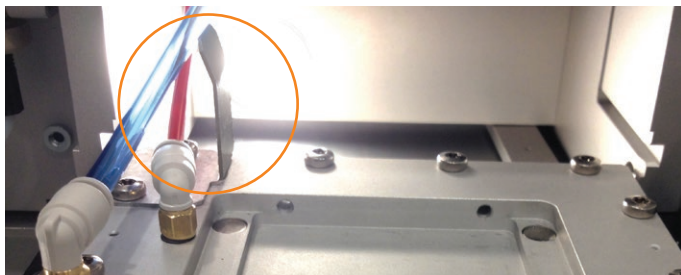

Figure 41. Ensure that the gas tubes are on the left side of the highlighted bracket.
- Reconnect the gas tubes. Ensure that the tubes are properly fastened by pulling on them. Ensure that the tubes are on the left side of the bracket in Figure 41.